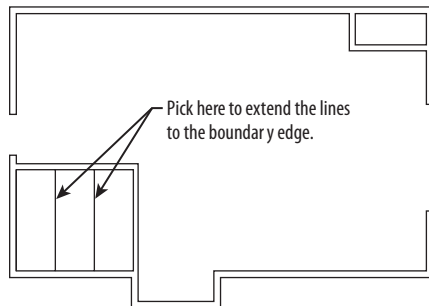

FIGURE 4.33: The lines after being extended through the bathroom walls
4. Click the two jamb lines to extend them. Be sure to pick points on the lines that are near the ends that you want to extend, as shown in Figure 4.33, or the lines will be extended in the opposite direction.
The lines are extended through the interior walls to make the jambs (see Figure 4.33).